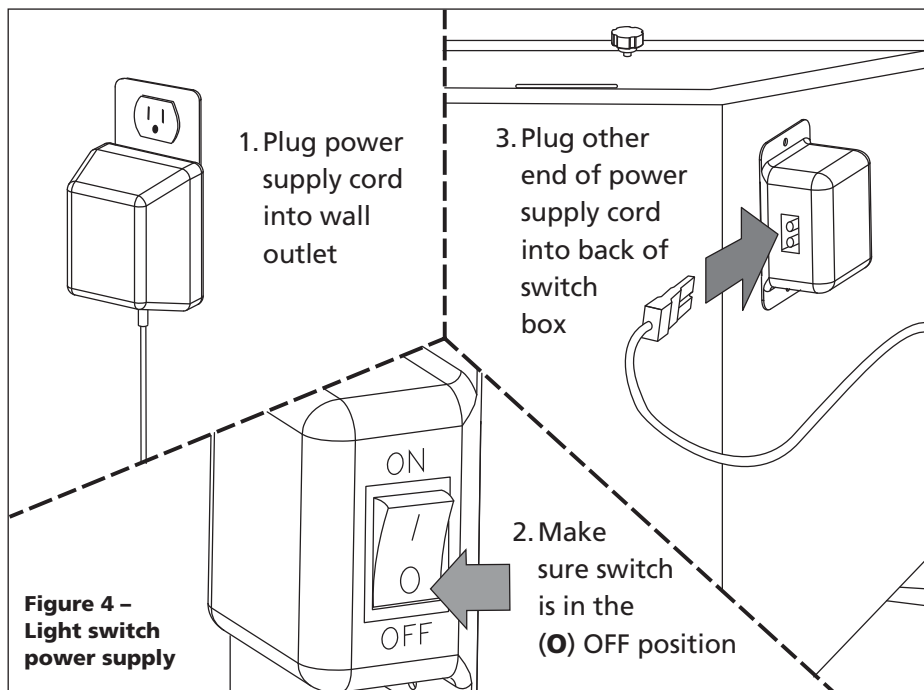

Figure 4 - Light switch power supply
4. Plug the 12V power supply into a 110V wall outlet (see Figure 4).
5. Making sure the switch is in the (O) OFF position, plug the other end of the 12V power supply cord into the light switch on the cabinet (see Figure 4).